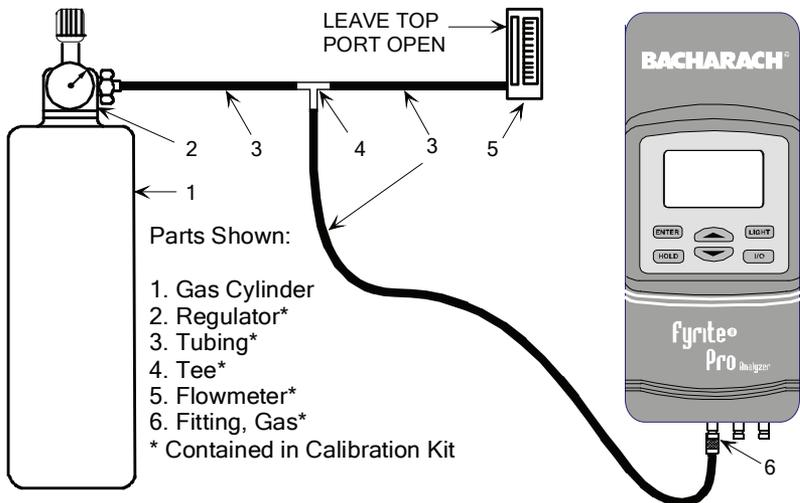

Figure 5-1. Calibration Kit Hookup
5. Connect the tubing of the Calibration Kit to the GAS inlet of the analyzer; then adjust the regulator for approximately 2 SCFH of excess flow (see Figure 5-1).
6. Connect the tubing of the Calibration Kit to the GAS inlet of the analyzer; then adjust the regulator for approximately 2 SCFH of excess flow (see Figure 5.1).